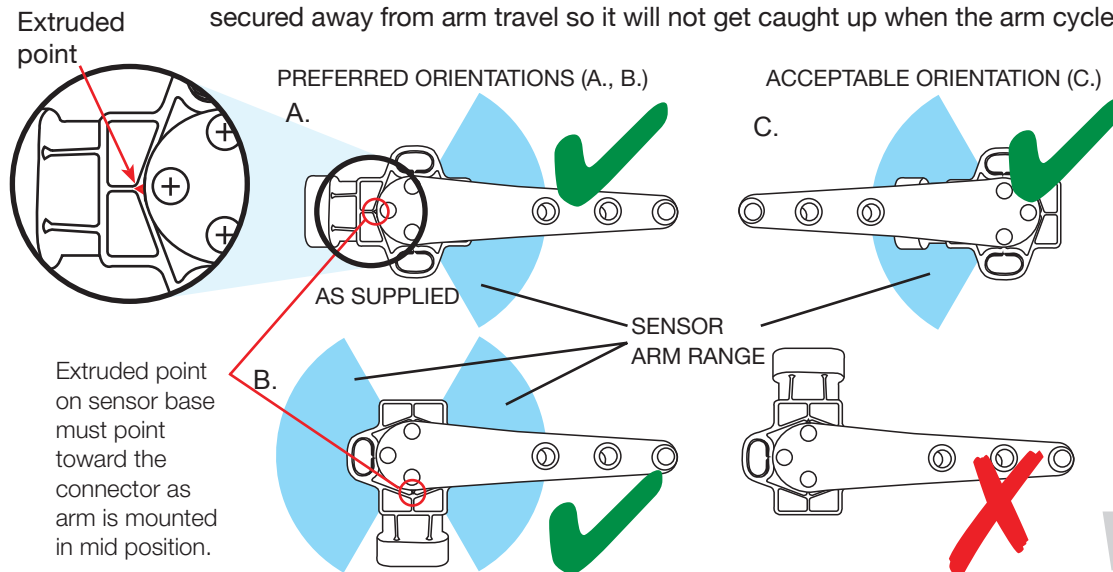

fig. 2
2. The sensor can be mounted in any direction and will still work as long as the sensor arm base's extruded point is pointing toward the connector when the sensor arm is at its mid-position. The height sensor assembly is supplied in position A. Remove the arm to reposition it to B or C but keep the extruded point in the direction of the connector. The orientation of the connector must be either facing down or parallel to the ground to avoid water accumulating on the connector and making its way into the sensor. Also mount the sensor where the arm will be mounted opposite or 90 degrees from the connector wiring if possible. If not possible, ensure the wiring harness is secured away from arm travel so it will not get caught up when the arm cycles (fig. 2).